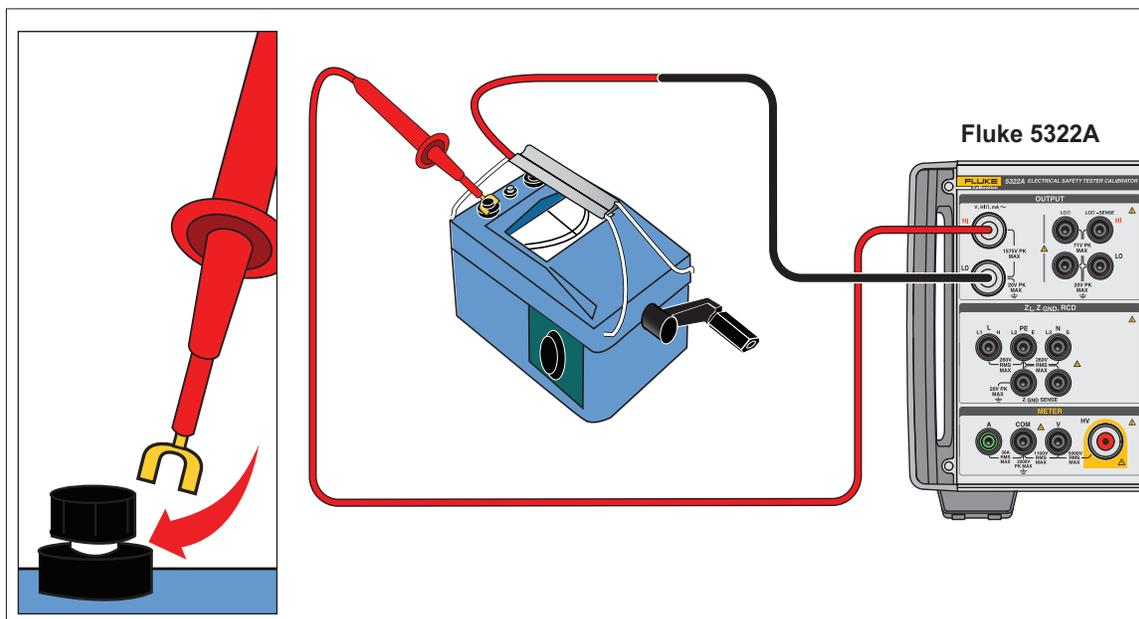

Figure 36. Hand Crank Insulation Tester Connections
2. Connect the DUT to the Product HI Ohm and LO Ohm output terminals. See Figure 36.